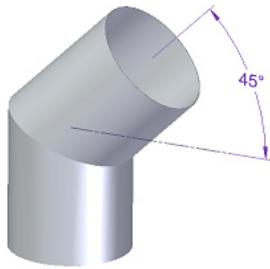

Fig. 29– **Correct** elbow angle
- \* Under rated operating conditions, the circulation of combustion gases should create a draught of 12 Pa about one metre above the chimney throat. For proper installation, at least 2 metres of metal flue tubing, with the same diameter as the unit's smoke outlet, should be fitted vertically above the unit. Additional lengths to this tubing may use piping sections with a max angle of 45°. Figures 29 and 30 illustrate the correct and incorrect angles for pipe elbows, should they need to be installed.